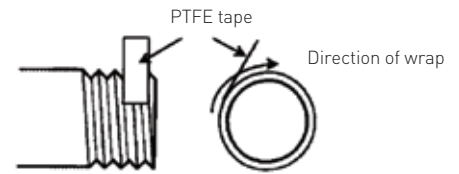

FIGURE 1
3. Wrench tighten tailpipes of upper and lower gagecocks to the vessel using PTFE tape, or equivalent, on all male tapered pipe thread connections as shown in Figure 1. If the gagecock is flanged or weld mount, use proper industry standard procedures.
**Leakage around union** connections can often be stopped by tightening union coupling nut or remaking the connection using PTFE tape, or equivalent, on all male pipe threads as shown in Figure 1.